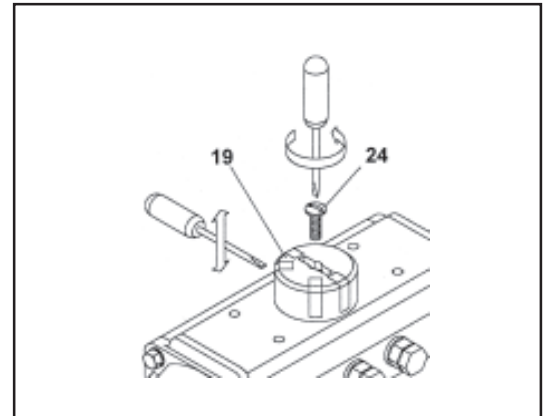
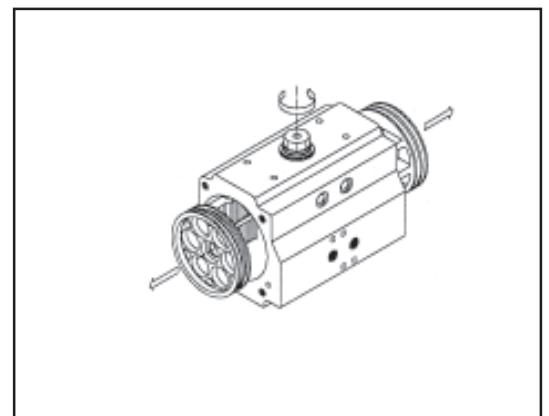
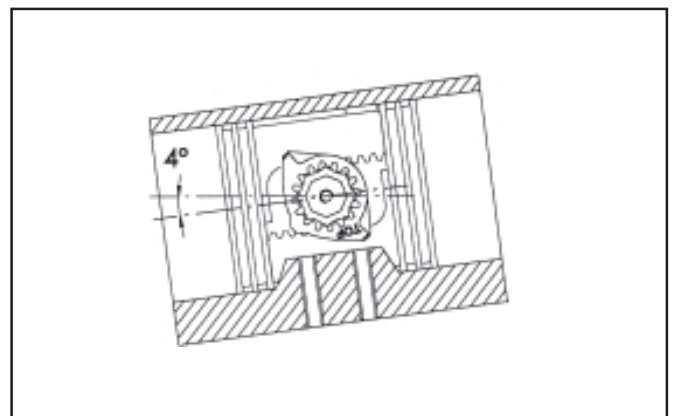
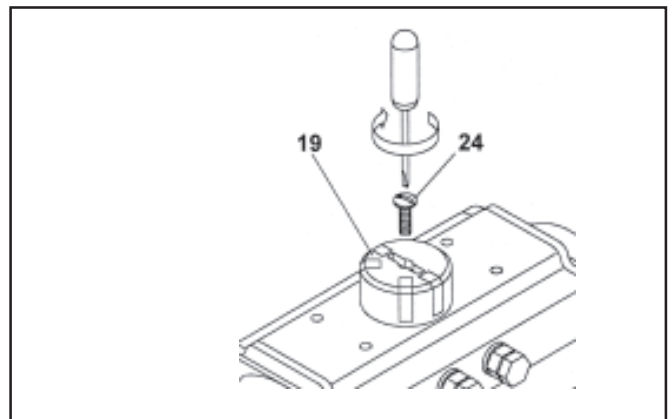

Fig. 15
Fig. 18
Fig. 25
Fig. 30
(Figure 15)
(Figure 18)
Check fullyclosed and open positions as shown in figure 25.
(Figure 30)
- Remove bolt (24) (Fig. 15).
- Remove position indicator (19) from stem.
- Remove both position bolts (2) with spacer (4) and nut (3).
- Remove seal rings (11).
- Remove bolts (13) from end caps.
- Remove spring sets (17) (only for spring return actuators).
- Remove end cap seal rings (14).
- Fit act. body (29) in a vice or similar, turn stem (30) until pistons (25) have left the act. body (Fig. 18)
- Turn both pistons (25) 180° around axial assle
- Press both pistons (25) in basic body (29) at the same time until piston have reached there end position
- Check that stem has turned 4° over center position (0°) (Fig. 25)
- Place spring sets (17) at pistons
- Place cap seal ring (14) on end caps (22 and 23)
- Mount end caps (22 and 23) at basic body (29)
- Mount bolts (13) at end caps (22 and 23)
- Mount both position bolts (2) with spacer (4), nut (3) and seal ring (11)
- Check both end position and adjust position bolts (2)
- Mount pos. indicator (19) in correct position (Fig. 30)
- Mount bolt (24) at stem